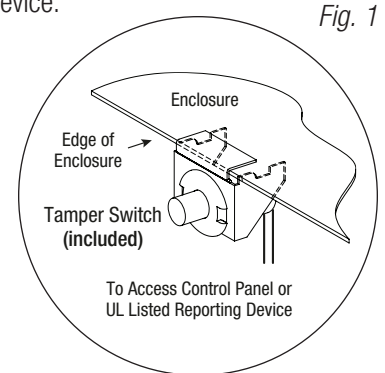

Fig. 1
2. Mark and predrill holes in the wall to line up with the top two (2) keyholes in the enclosure. Install two upper fasteners and screws in the wall with the screw heads protruding. Place the enclosure's upper keyholes over the two upper screws; level and secure. Mark the position of the lower two holes. Remove the enclosure. Drill the lower holes and install the two fasteners. Place the enclosure's upper keyholes over the three upper screws. Install the two lower screws and make sure to tighten all screws.
3. Mount included UL Listed tamper switch (Altronix Model T112 or equivalent) in desired location, opposite hinge. Slide the tamper switch bracket onto the edge of the enclosure approximately 2" from the right side (*Fig. 1, pg. 2*). Connect tamper switch wiring to the Access Control Panel input or the appropriate UL Listed reporting device. To activate alarm signal open the door of the enclosure.